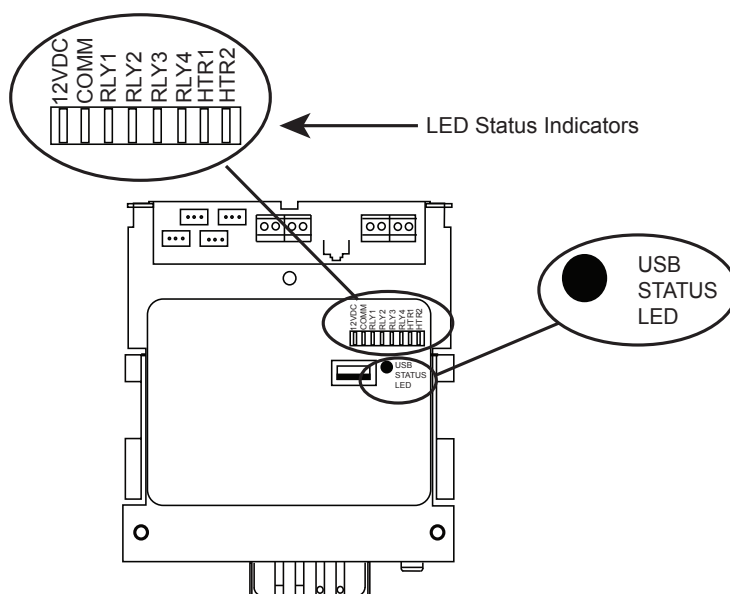

Figure 14. P5043ME with LED indicators.
- Activate your heater outputs, motor control outputs, and 12 VDC motor control configuration to verify the corresponding LED indicators illuminate. See Figure 14 and the table below for description of the LED indicators.